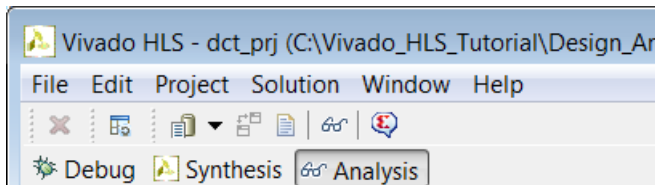

Figure 112: Opening the Analysis perspective
1. Click the **Analysis** perspective button (Figure 112) to begin interactive design analysis.